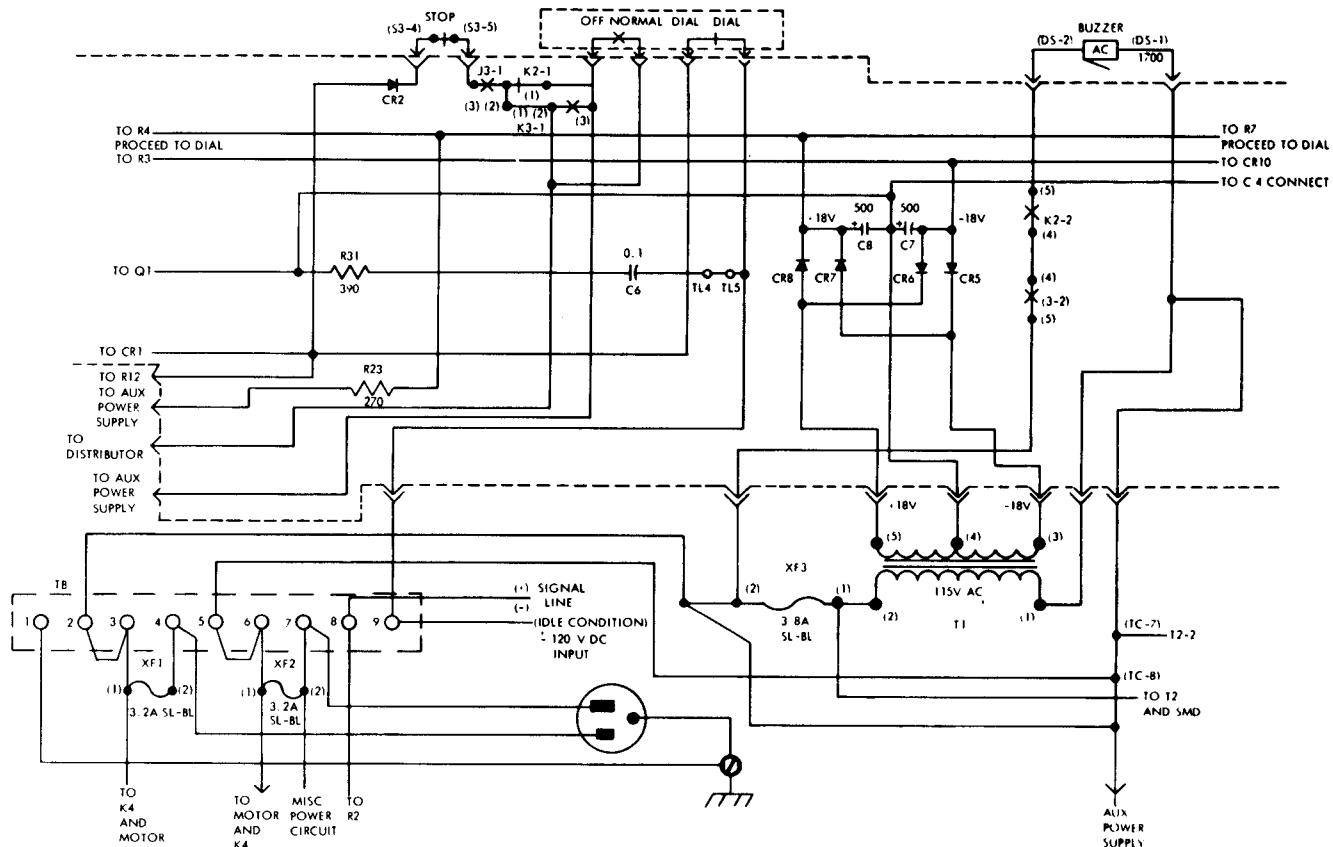

Figure 1 - Power Supply Circuit
**3.02** A fused power supply circuit (Figure 1), operates on 117 volts ac  $\pm 10$  percent at 60 hertz  $\pm 1/2$  hertz, and a power input of 12 watts. The power supply ground is floating with respect to the input signal line; that is, it is not at earth ground. Therefore, the center tap of the transformer is +120 volts from earth ground in neutral signaling. The polar adapter, on teletypewriters so equipped, also contains a power supply. This power supply, as well as the one found on the call control unit, uses an earth ground.